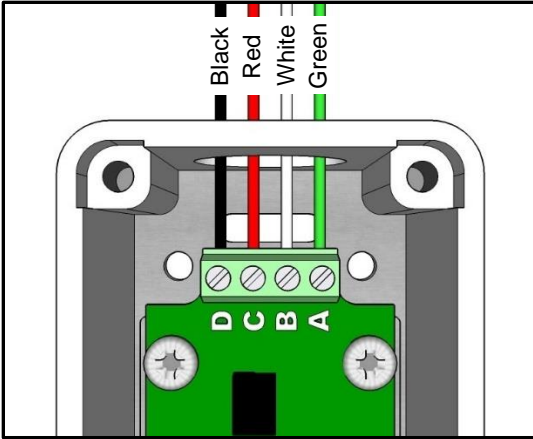

Figure 28
- 2** In the 4 wire safety circuit from junction box near each opening is a black, red, white, and green wire. Connect the 4 wires to the terminal block in the RDI interlock at the first opening. (see Figure 28)